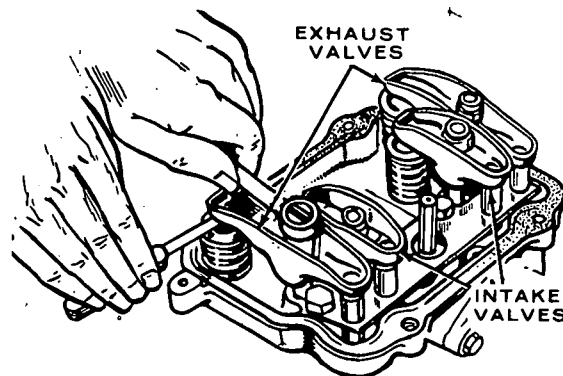

FIGURE 21. CHECK VALVE CLEARANCE
4. Using a feeler gauge, check the clearance between the rocker arm and the valve (see Figure 21). Increase or decrease the clearance until the proper gap is established. Valve clearances are given in the *Specifications* section.